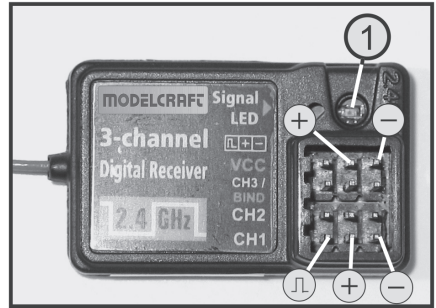

Figure 7
Switch on the transmitter and then the receiver. If the binding function is working correctly, the red control LED in the receiver (see figure 7, item 1) lights up. Verify correct receiver function and then switch the receiver off again.